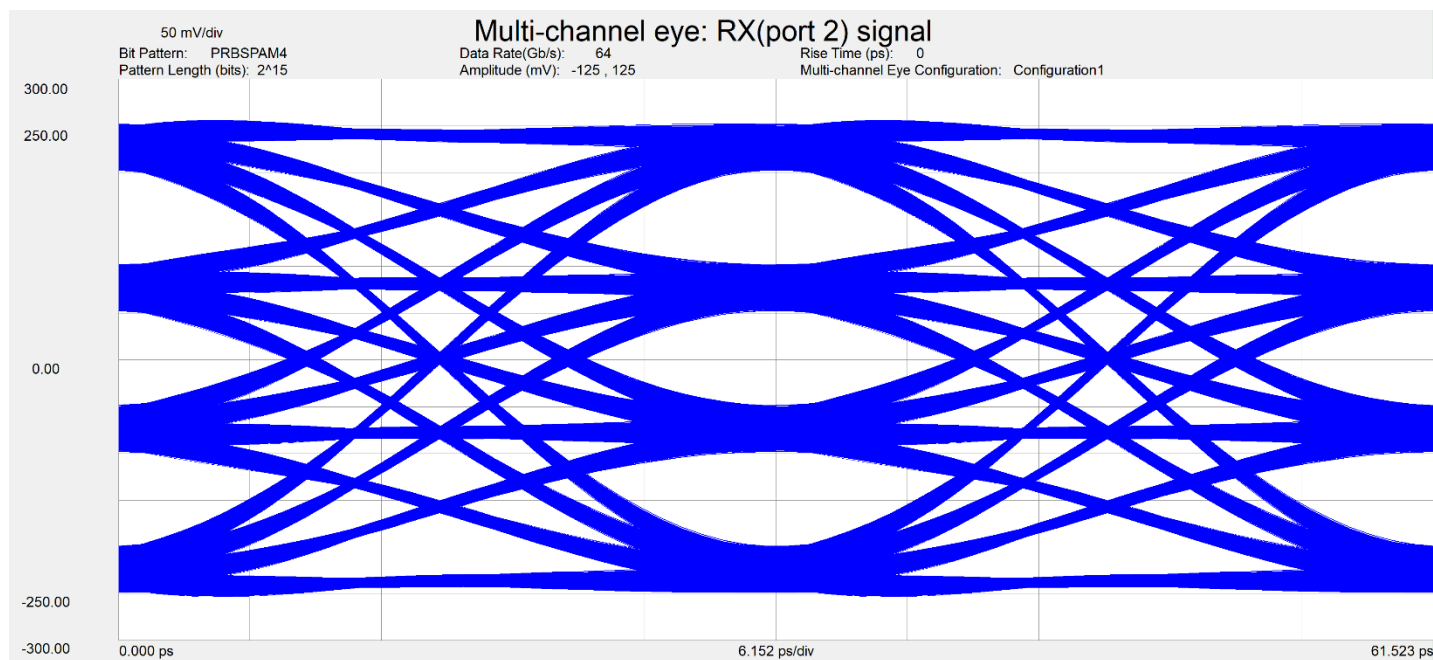
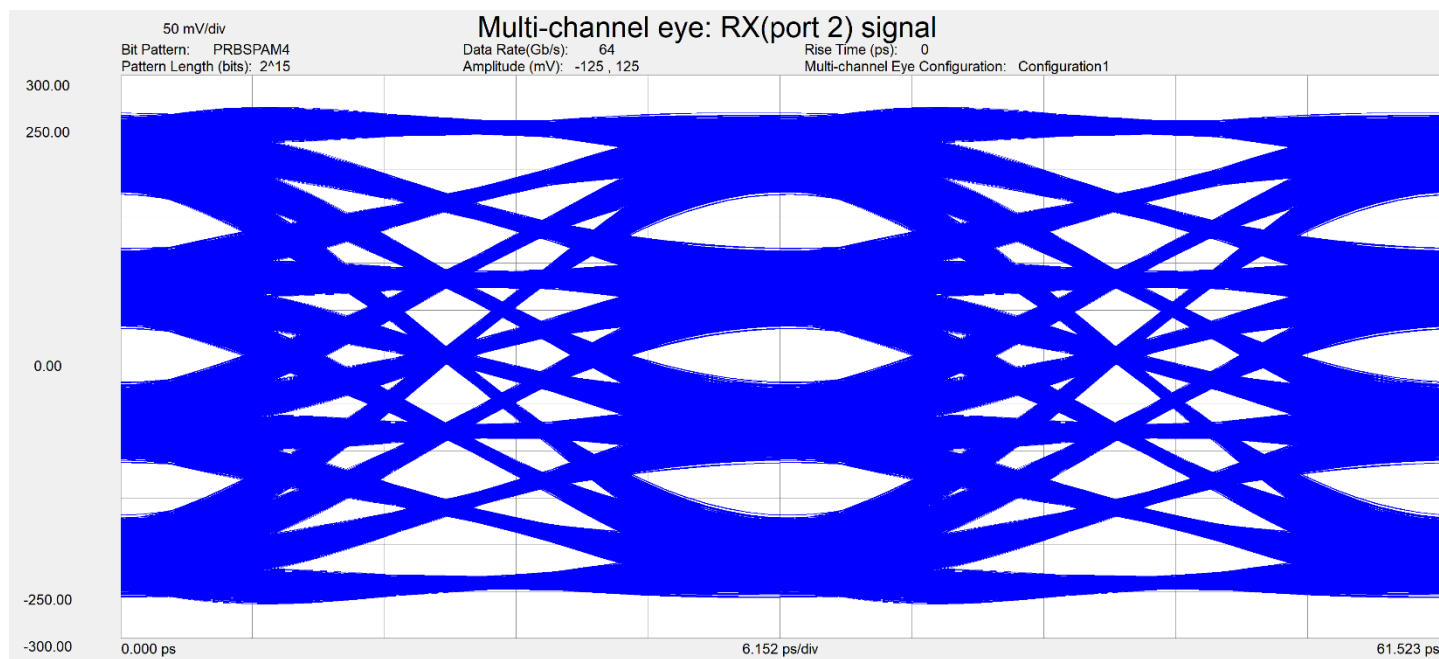

Figure 1. HS1-HS2 Differential PAM4 Eye Diagram
Figure 2. MS1-MS2 Differential PAM4 Eye Diagram
- Signal path: (Figure 1) HS1 to HS2, (Figure 2) MS1 to MS2